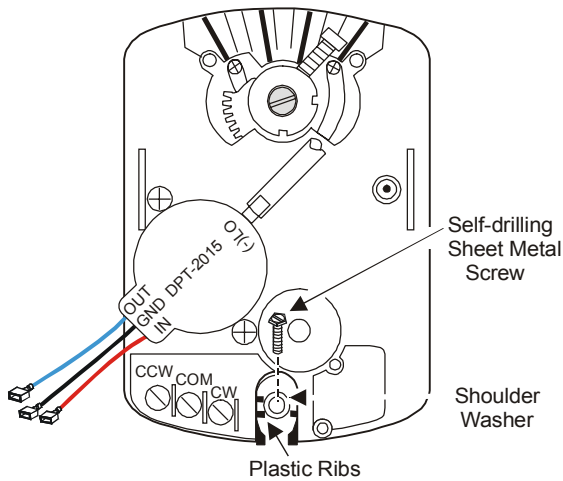

Figure 3: Shoulder Washer Position with Self-drilling Sheet Metal Screw
- Verify that the shoulder washer is centered between the plastic ribs of the actuator housing to allow actuator movement during rotation. (See Figure 3.)
- Hold the actuator in place on the damper shaft, and insert the self-drilling sheet metal screw through the shoulder washer. (See Figure 3.)